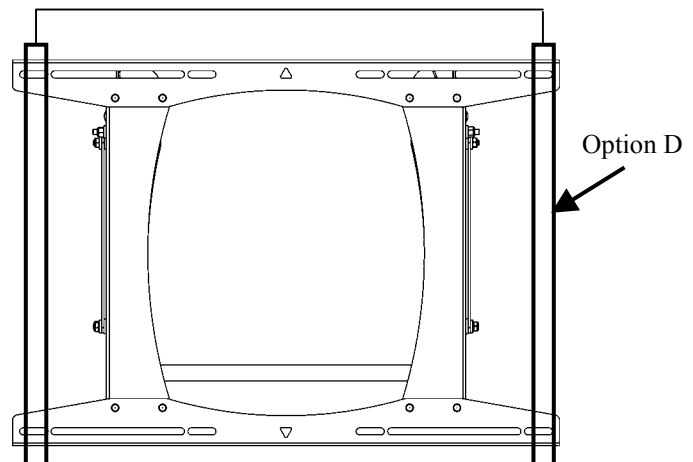

Figure 7. Mounting Holes – 24" Apart On Center (Option D)
- **Option D.** Install four lag bolts and four washers (two top and two bottom) into the mounting holes, centering the MSP-LT on dual wood studs 24" apart on center as shown in Figure 7.